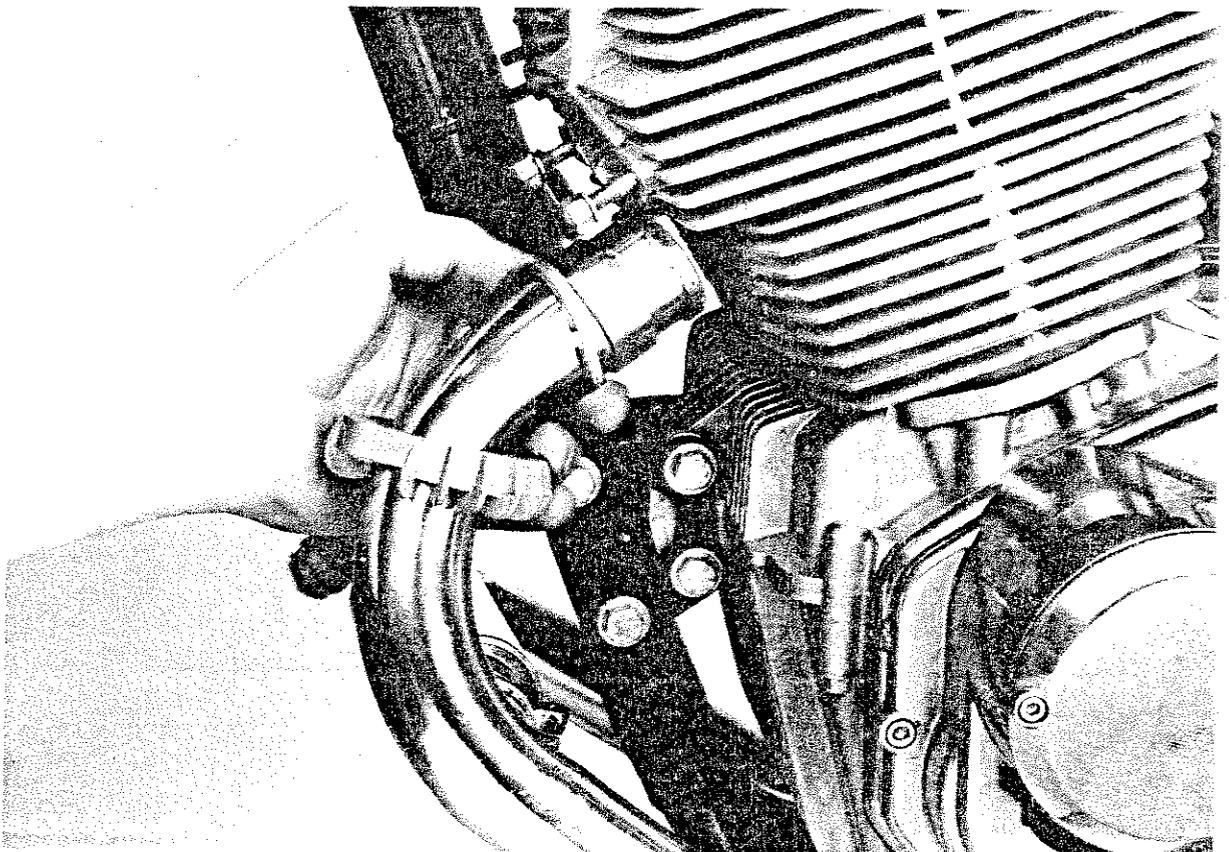

Fig. 18
- 4) Tirare in avanti i tubi di scarico recuperando i 4 semianelli e le guarnizioni (Fig. 18).
- 4) Move the exhaust pipes towards the front wheel and remove the four split rings and the exhaust pipe gaskets (Fig. 18).